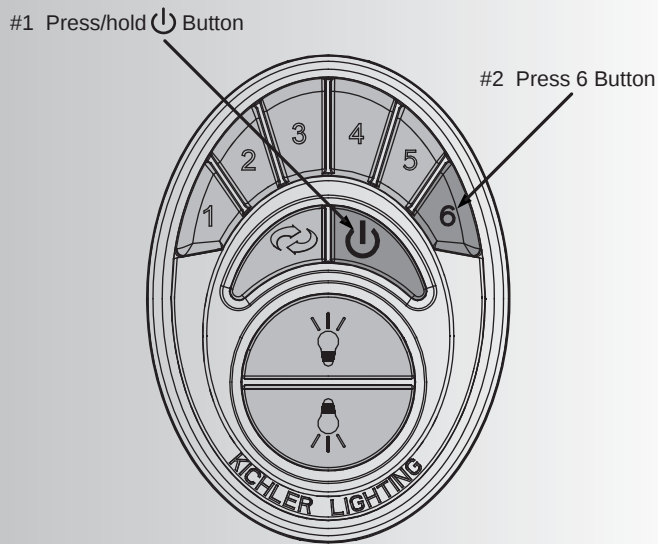

Fig. 23
4. Turn the power on, press and hold the  button until the ceiling fan light blinks twice (Figure 23)
6. After the ceiling fan light blinks twice, press and release the High Speed (6) Button. Let the ceiling fan run for a minimum of 90 seconds (1 ½ minutes). The control system will do another self check, initialize all operational functions and complete the programming process (Figure 23).